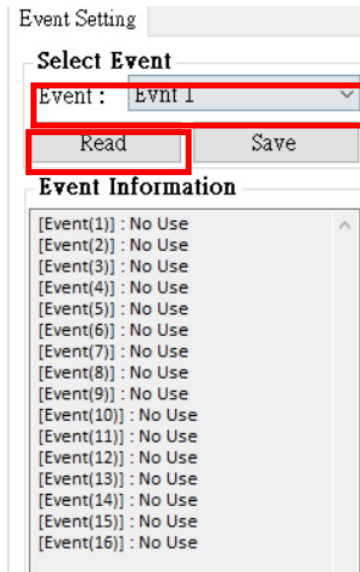

Figure 6.10.5
- D. First select Event and press “Read” as shown in Figure 6.10.5